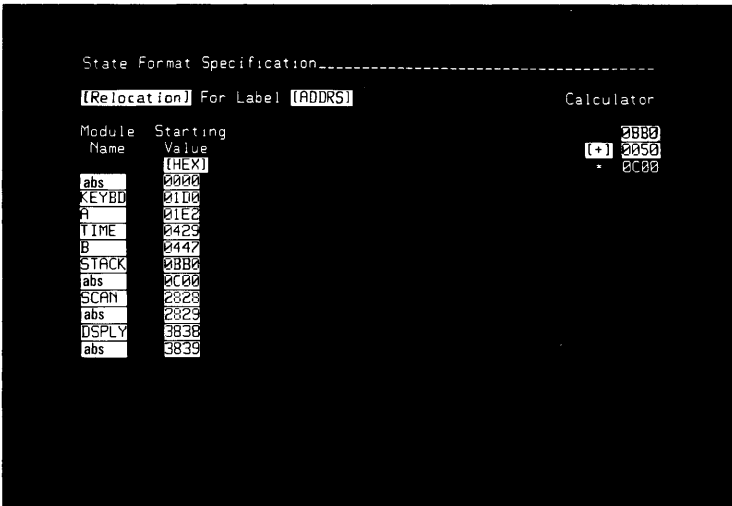

Figure 3-20. Relocation Menu Assignments
32. Move the cursor into the Starting Value field and type in 3839 beside the bottom "abs" entry. Your display should be the same as in figure 3-20.